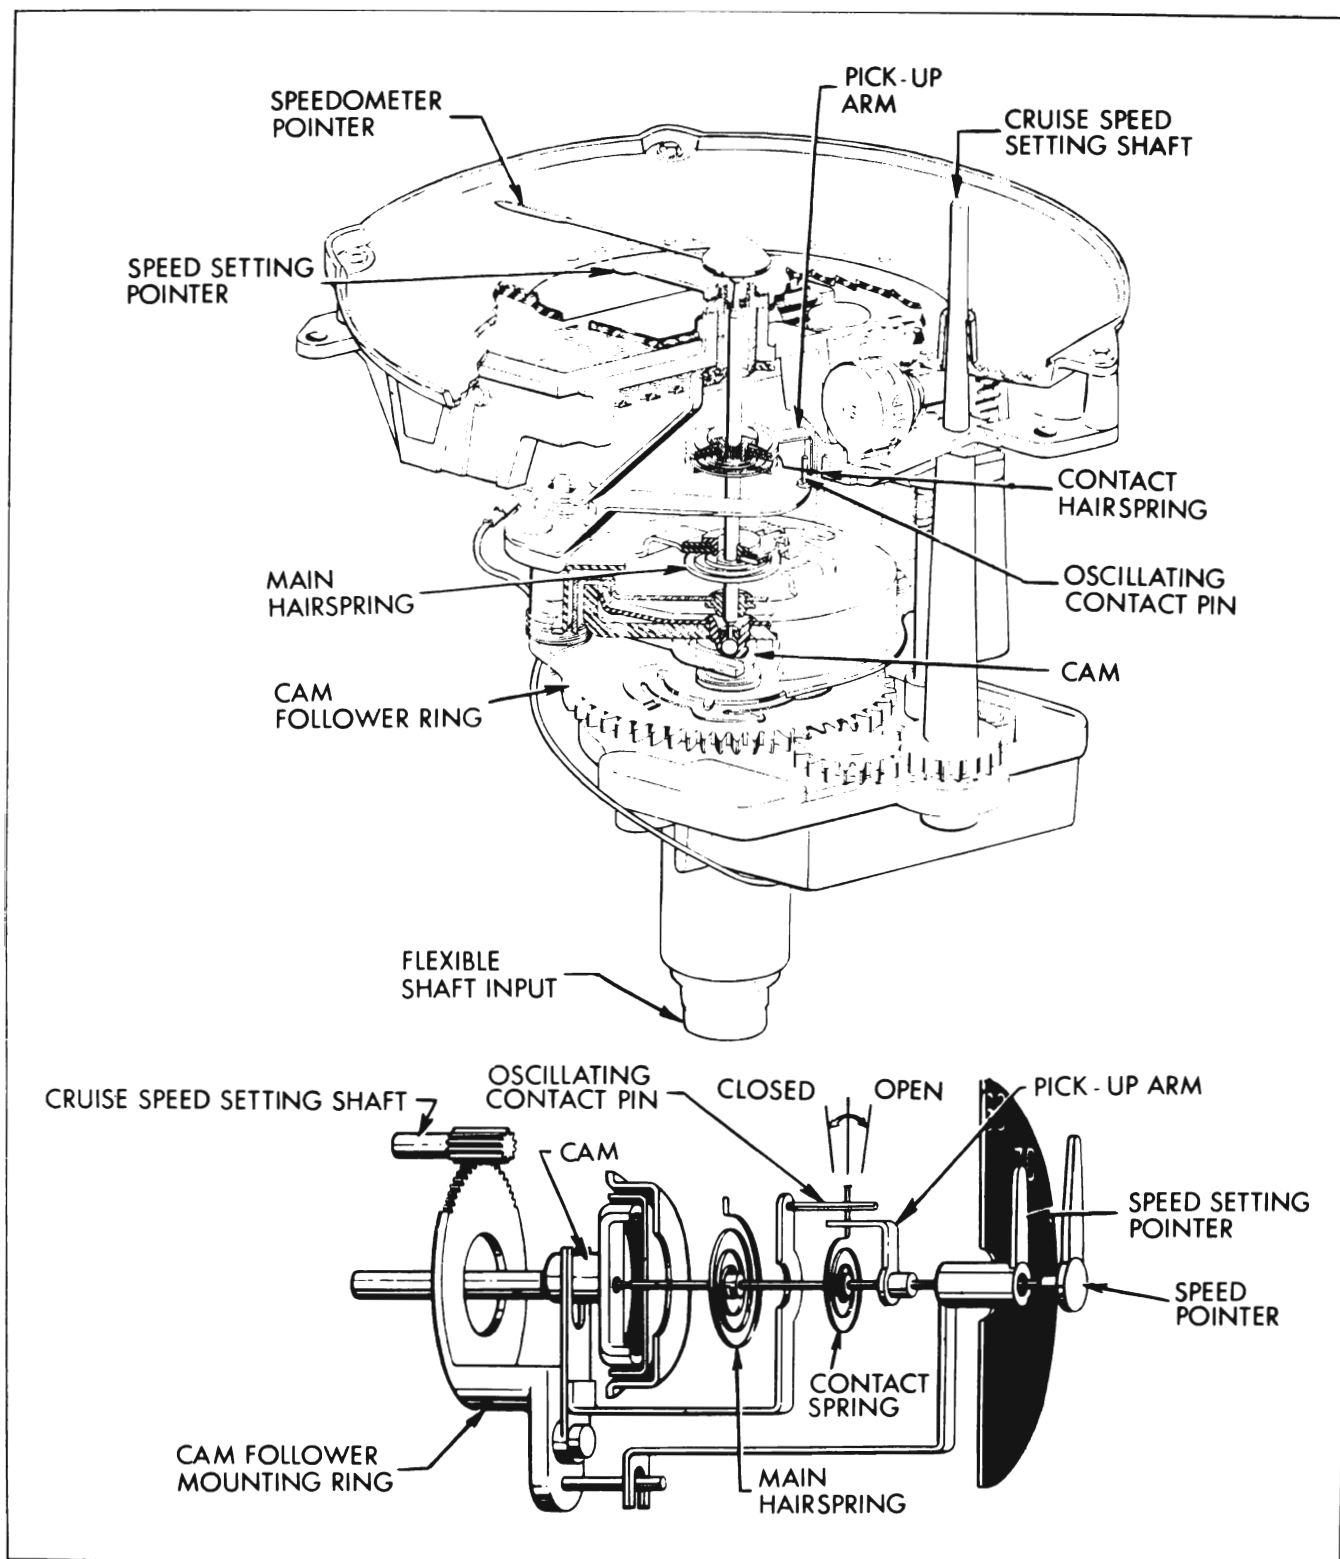

Figure 11-185—Speedometer and Speed Transducer
- The speed transducer is integral with the speedometer and utilizes a cam, cam follower, oscillating contact spring and pickup arm to control the electrical impulses reflected from the electronic control unit to the power unit. See Figure 11-185. Position of the oscillating contact pin, which determines the set speed, is adjusted by rotating the cam follower mounting ring through a gear arrangement with the speed setting shaft and knob assembly. Rotating the cam follower mounting ring also moves the speed setting pointer to indicate the relative position of the oscillating contact pin, and, therefore, indicate the actual set speed.